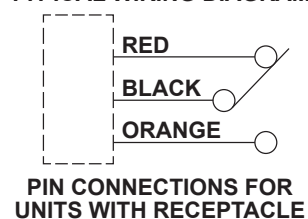

Figure 5. Typical Switch Wiring Diagram
3. Make wiring connections according to switch wiring diagram (Figure 5).